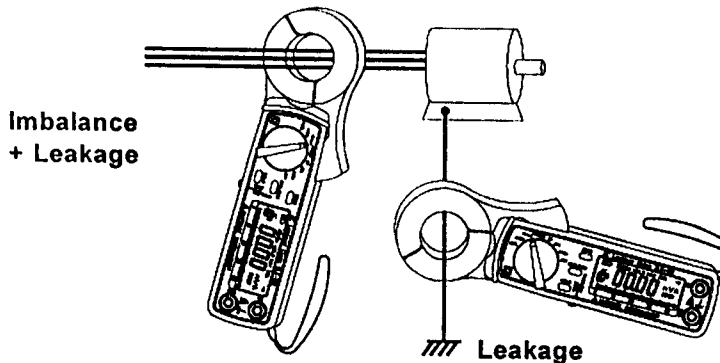

Fig.5: 3φ 3 Wire Imbalance and Leakage Measurement
- Press the trigger to open the transformer jaw and clamp around the ground conductor only (see Fig.5). Make sure that the jaw is fully closed.
3. Press the trigger to open the transformer jaw and clamp around the three "Hot" conductors only (see Fig.5). Make sure that the jaw is fully closed.
7. Press the trigger to open the transformer jaw and clamp around the ground conductor only (see Fig.5). Make sure that the jaw is fully closed.